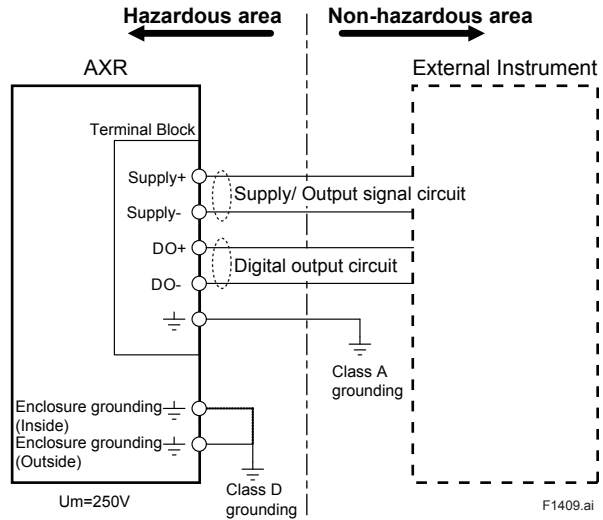

Figure 14.5.4 Configuration (TIIS)
- 1) Follow Figure 14.5.4 regarding the system configuration.